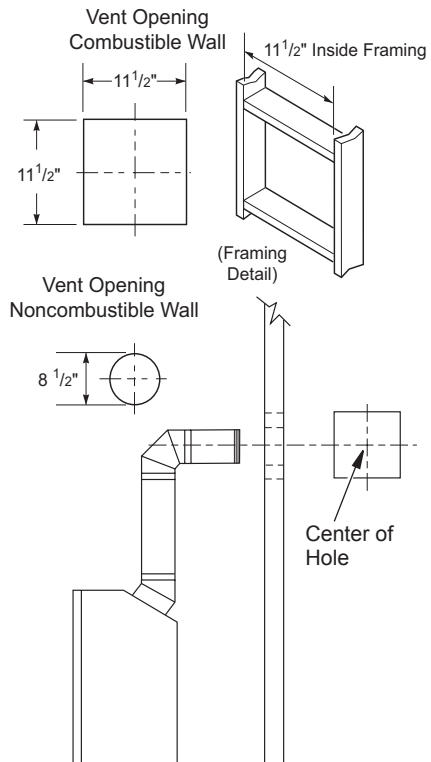
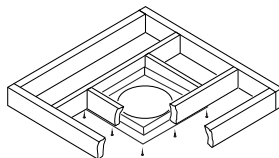

Figure 9 - Vent Opening Requirements
Figure 20 - Installing Firestop
5. Carefully determine location where vent pipe assembly will penetrate outside wall. Center of hole should line up with center line of horizontal vent pipe. Mark wall for a 11 1/2" x 11 1/2" square hole. Cut and frame square hole in exterior wall where vent will be terminated. If wall being penetrated is constructed of non-combustible material, such as masonry block or concrete, a 8 1/2" hole with zero clearance is acceptable (see Figure 9).
should be framed to 11 1/2" x 11 1/2" inside dimensions, as shown in Figure 9 on page 10 using framing lumber the same size as ceiling joists. If area above ceiling is an insulated ceiling or an attic, nail firestop from top side. This prevents loose insulation from falling into required clearance space. If area above ceiling is a living space, install firestop below framed hole. Firestop should be installed with no less than three nails per side (see Figure 20).
3. Cut a hole in roof using locating hole as a center point. (Cover any exposed open vent pipes before cutting hole in roof.) The 11 1/2" x 11 1/2" hole must be measured on the horizontal; actual length may be larger depending on pitch of roof. There must be a 1" clearance from vent pipe to combustible materials. Frame opening as shown in Figure 9, page 10.